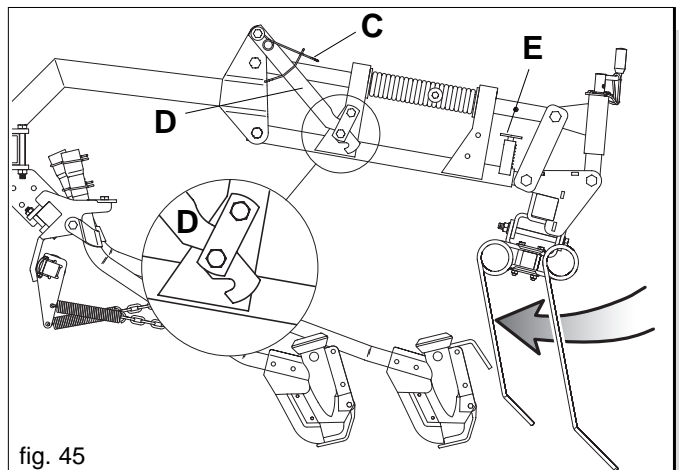

fig. 45
For road transport, the teeth of the seed covering harrow must be turned downwards (Fig. 45).
- 1) Position the spring (C) as shown in Figure 45.
- 2) Lift the seed-covering harrow so as to hook the lever (D Fig. 45).
- 3) Lift the pin (E Fig. 45) and slide the harrow to the next automatic hook of the pin (E Fig. 45).